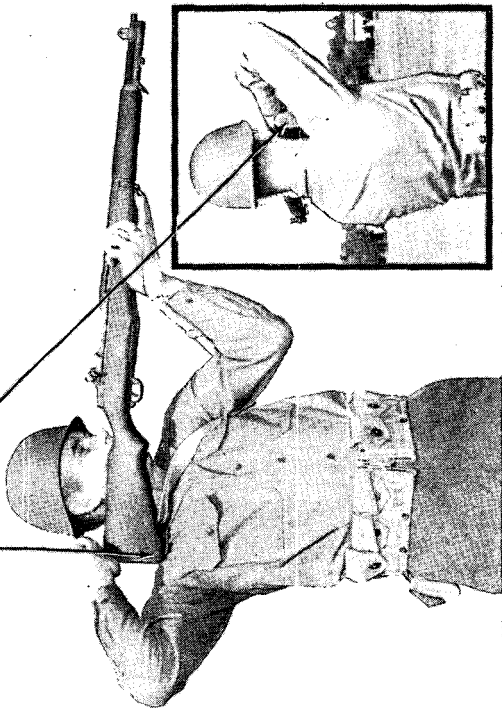

Figure 78. Taking the standing position.
b. To assume this position, stand facing your target, make a right face, and spread your feet ten to fourteen inches apart. Now move the right foot forward a few inches. This places your body at an angle of approximately 85° with your line of aim. Place the sling on your arm and the left hand just forward of the balance. With the right hand, raise the rifle butt upward until the sights are level with the eyes and the toe of the butt is high on the shoulder (fig. 78). About half of the butt should be visible from the rear. Raise the